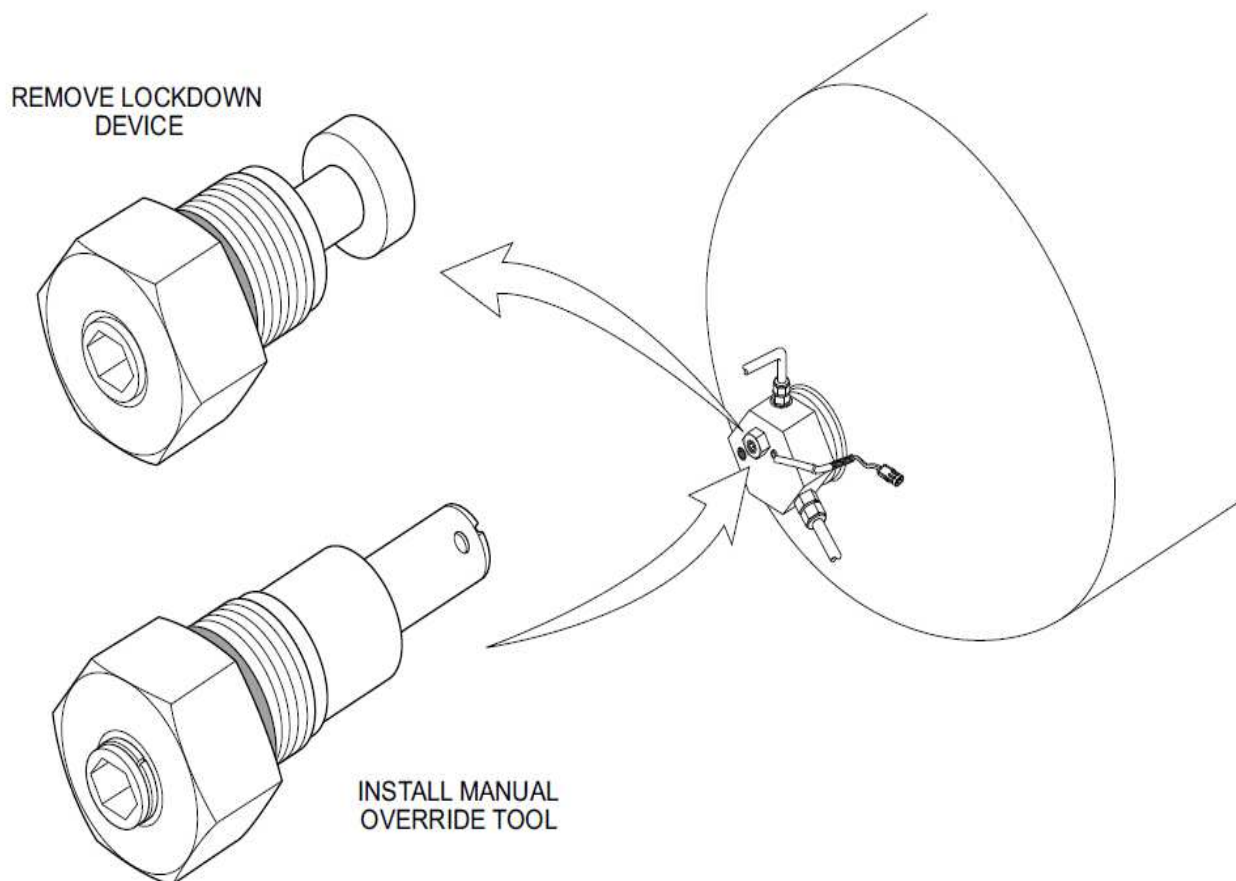

Figure 3: Lockdown/Override Tool Removal & Installation
**NOTE:** The following steps requires that a special manual override tool be installed in place of the manual lockdown device. The manual override tool is used to mechanically force the solenoid valve off its seat and allow the tank to vent completely. Figure 3.